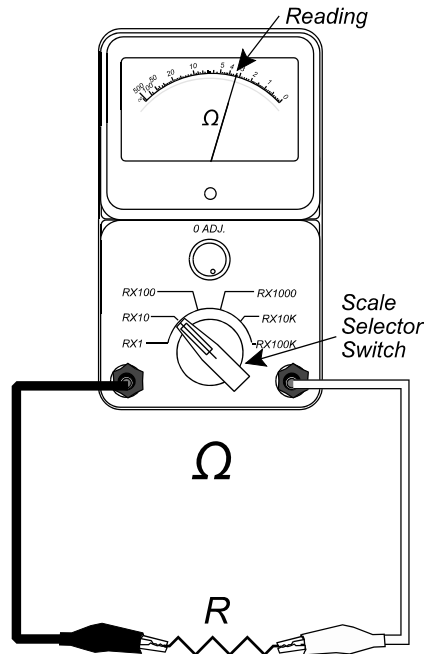

Figure 1-2
- Connect a resistor between the terminals as shown in Figure 1-2 and read the value of the resistor off of the scale. Again, position your eye so that you cannot see the needle reflection to get the most accurate reading.